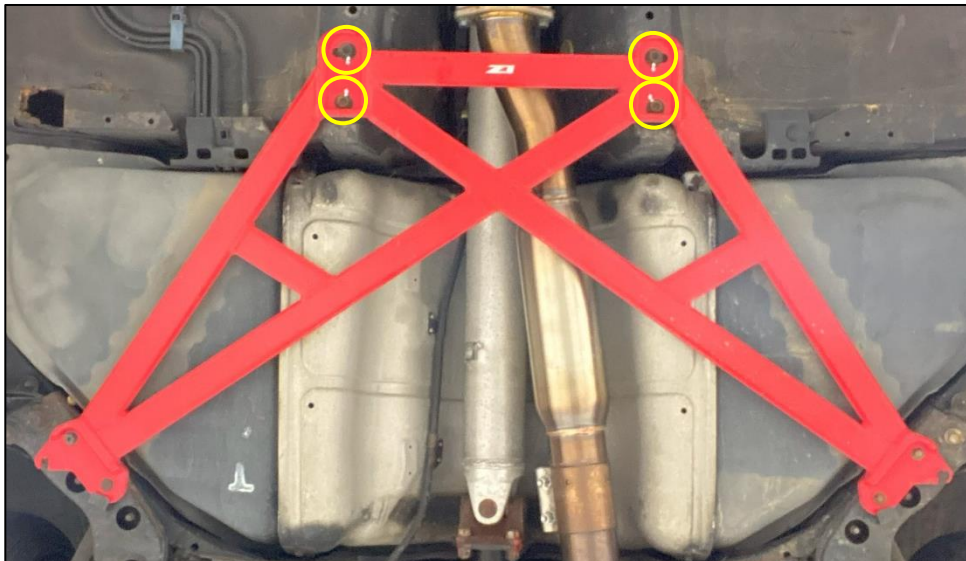

Figure 2
4. Position the Z1 Motorsports W-Brace in position and loosely install the (4) four M10 x 1.25 Bolts. *Figure 2*.